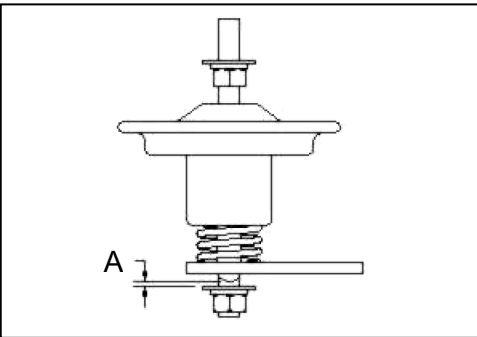

Figure 13 - Wipe Measurement
To determine the electrode wear, measure dimension A between the lever and washer in the closed (ON) state, as shown in Figure 13. This dimension is called the “wipe”. If the 1.0mm contact wear gauge cannot be inserted, then the end of the service life has been reached.